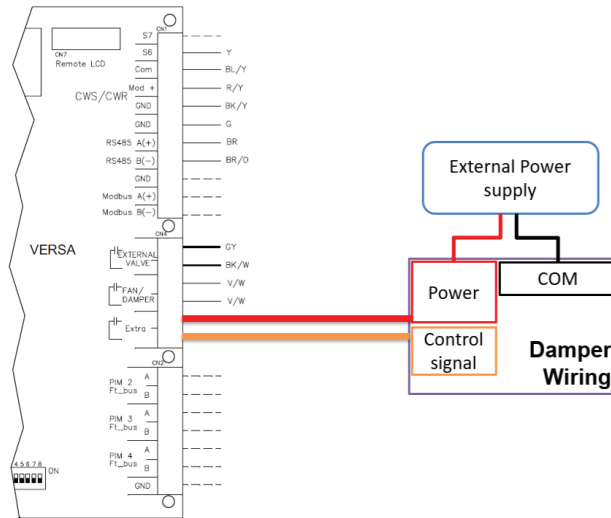

Figure 54. Damper Wiring
• Wire damper per **Figure 54** and per the damper manufacturers instructions: